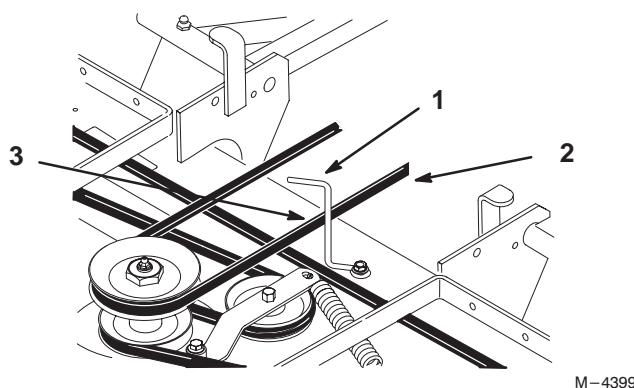

Figure 56
11. Rotate the belt guide, on rear of the mower, so it is 1/8"-1/4" (3-7 mm) away from the vertical side of the PTO belt (Fig. 56).